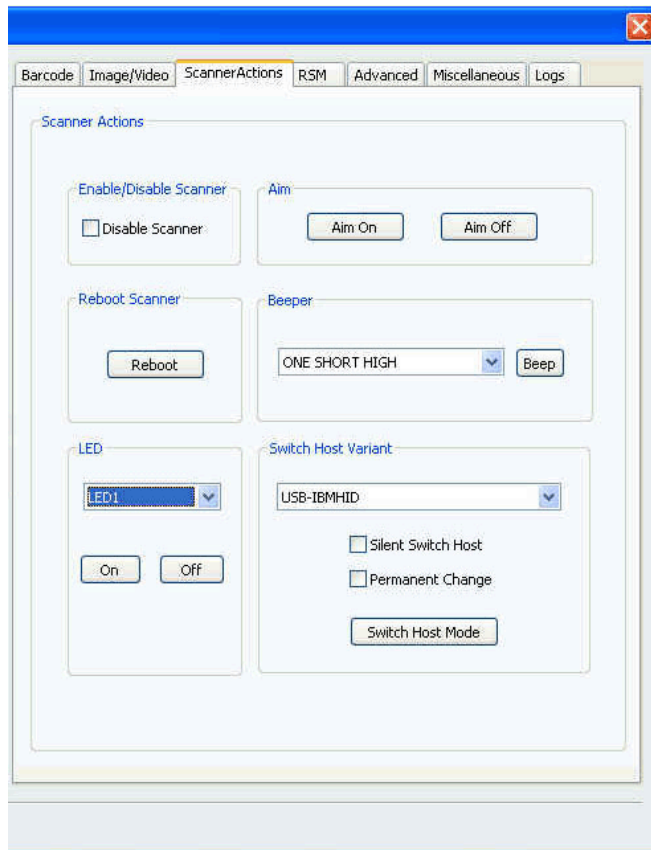

Figure 4-9 LED Selection
3. Select the desired LED from the list, defined on the *Scanner Actions* tab (see Figure 4-9 on page 4-14).
✓ **NOTE** The <scannerID> tag in the XML is filled with the scanner ID selected in the *Connected Scanners* list of the sample application. The <arg-int> tag in the XML is filled with the corresponding action value to turn on or off the LED selected from the drop-down list shown in Figure 4-9.